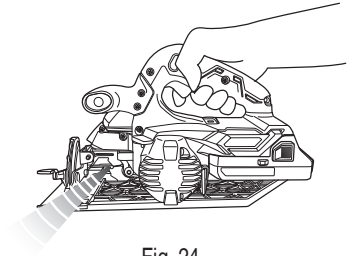

Fig. 24
7. LED light warning signals (Fig. 24)